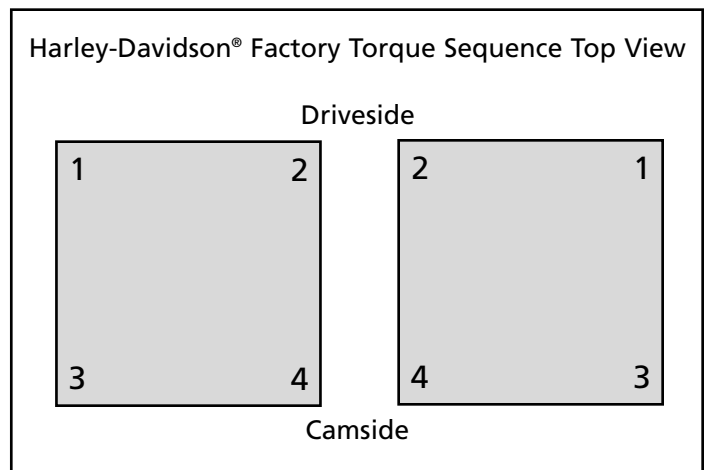

Figure 1
2. Torque bolts to 40 ft-lbs. in same pattern used to install heads during engine assembly. **See Figure 1.** Tighten bolts in following stages: